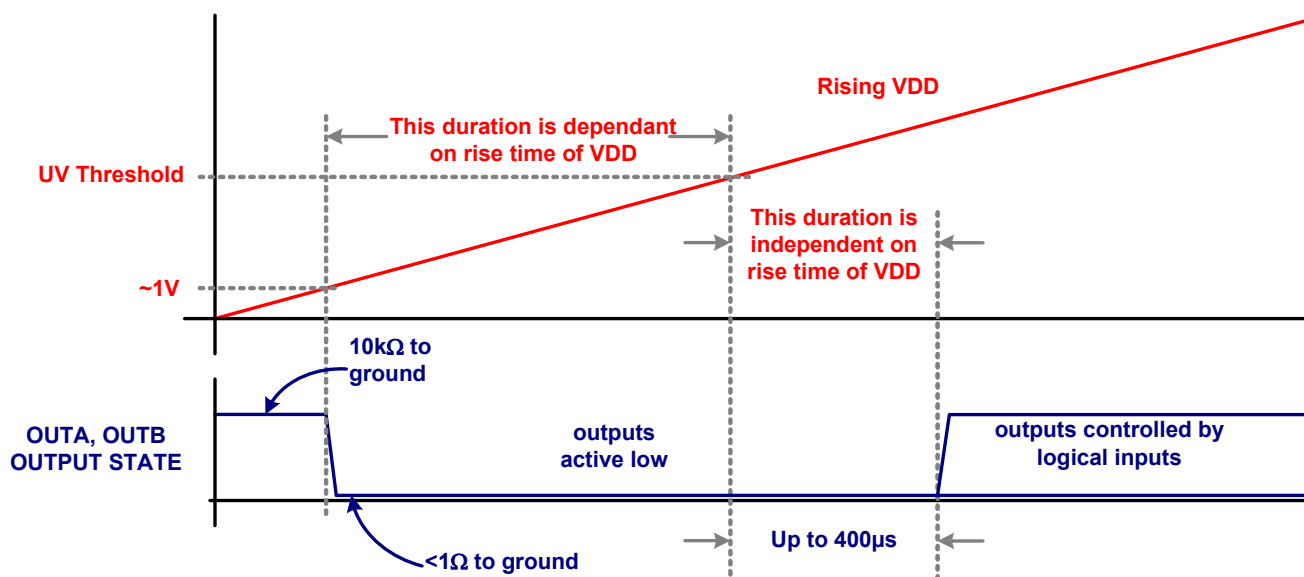

FIGURE 9. START-UP OUTPUT CHARACTERISTIC
| VDD Undervoltage Lock-out(Options A and B) (Note 12,Figure 9) | V UV | ENA = ENB = TrueINA = INB = True          | -                      | 3.3   | -   | -                                | -               | V     |
| VDD Undervoltage Lock-out(Option C) (Note 12, Figure 9)           | V UV | ENA = ENB = TrueINA = INB = True (Note 9) | -                      | 6.5   | -   | -                                | -               | V     |
- A 400 $\mu s$  delay further inhibits the release of the output state when the UV positive going threshold is crossed. See Figure 9.
The start-up sequence for input threshold options A, B, and C is designed to prevent unexpected glitches when  $V_{DD}$  is being turned on or turned off. When  $V_{DD} < \sim 1V$ , an internal  $10k\Omega$  resistor connected between the output and ground, help to keep the gate voltage close to ground. When  $\sim 1V < V_{DD} < UV$ , both outputs are driven low while ignoring the logic inputs. This low state has the same current sinking capacity as during normal operation. This insures that the driven FETs are held off even if there is a switching voltage on the drains that can inject charge into the gates via the Miller capacitance. When  $V_{DD} > UVLO$ , and after a  $400\mu s$  delay, the outputs now respond to the logic inputs. See Figure 9 for complete details.